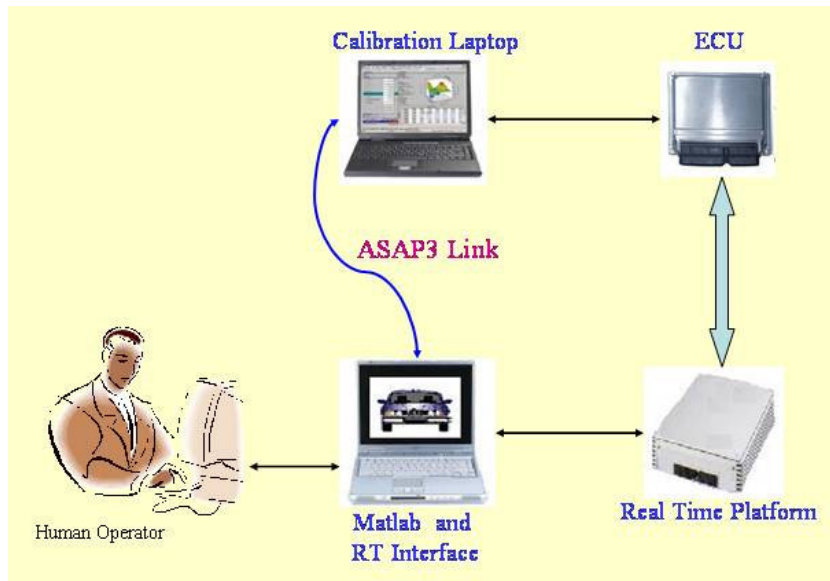

Figure 1: HIL Setup with ASAP3 Interface
The example under consideration is a Hardware-in-the-Loop (HIL) system for Electronic Control Unit (ECU) validation. The components of a typical HIL setup are (see Figure 1):
- Calibration computer:** Calibration computer (Calibration Laptop in Figure 1) interfaces with the ECU and provides means of monitoring the ECU and also do online calibration changes for the ECU. This device can be used in an interactive or stand-alone mode.
- Real Time Platform interface computer:** This device (Matlab and RT interface in Figure 1) provides interface with the Real Time platform. This helps to monitor the model (running on the Real Time platform) parameters. In the current scenario this computer will also be able to act as an AUSY and interfaces with the Calibration computer, which is the MC System.